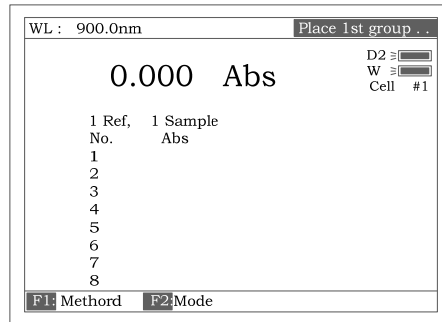
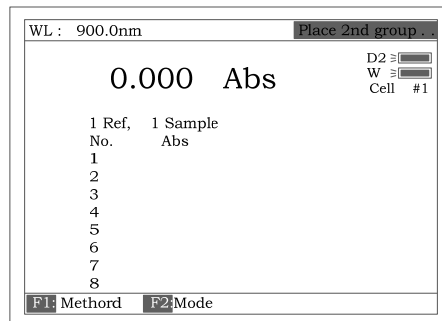

Fig 105
Fig 106
- Press **[START]**, the screen display as Fig105, the “Place 1st group...” appear on the right of top line, Press **[0Abs/100%T]**, the 8 references are taken automatically and the screen change to Fig 106.